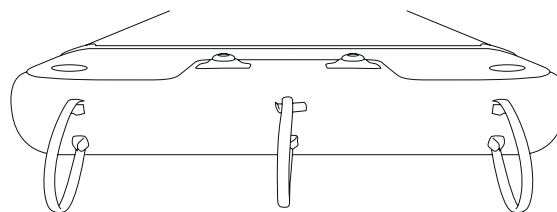

Fig 27 - Undo Velcro flaps
1. At the end of the Platform with the 3 Air Toggle loops, undo the Velcro flaps to release the Air Toggle loops (Fig 27).